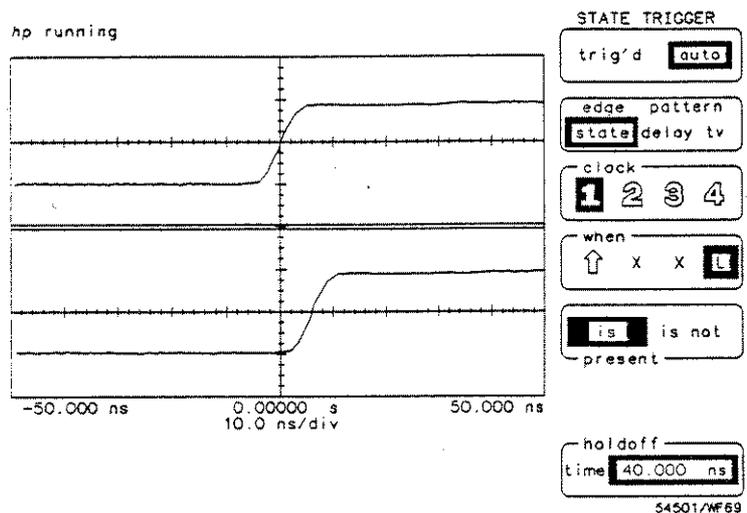

Figure 6-11. Channel 1 Clock XXL State
- Press the when key until is present is selected (see Figure 6-11).